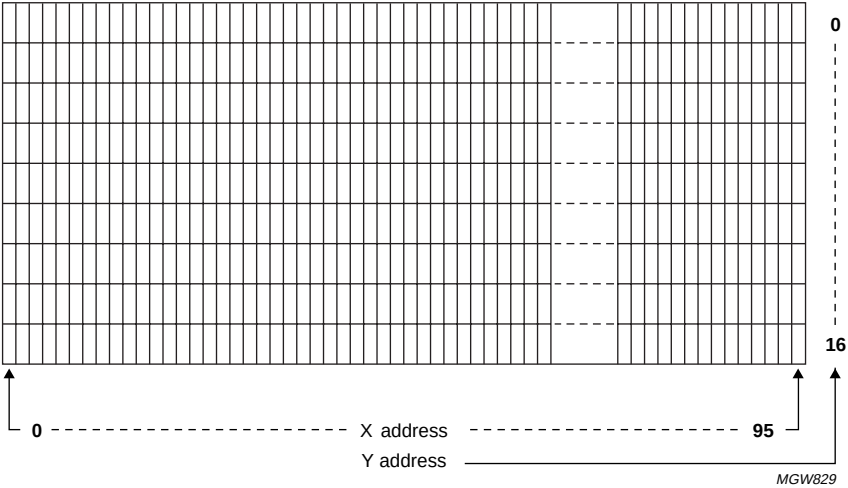

Fig.9 RAM format addressing (MX = 0).
- When MX = 0, the mirroring is disabled and the address X = 0 is located at the left side (column 0) of the display (see Fig.9).